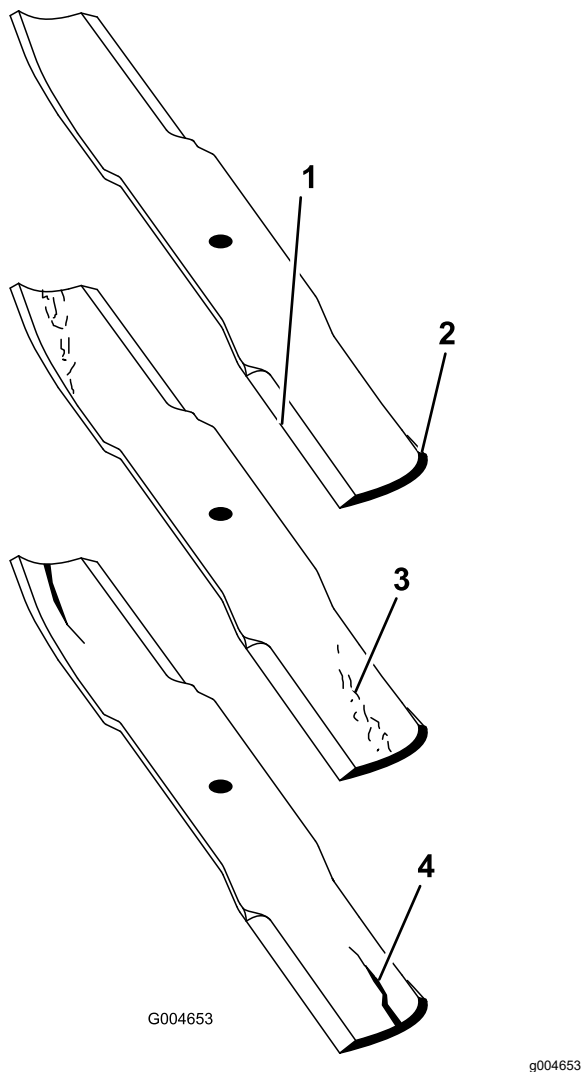

Figure 131
2. Examine the cutting ends of the blade carefully, especially where the flat and curved parts of the blade meet (Figure 131).
Note: Because sand and abrasive material can wear away the metal that connects the flat and curved parts of the blade, check the blade before using the mower. If you notice wear (Figure 131), replace the blade.